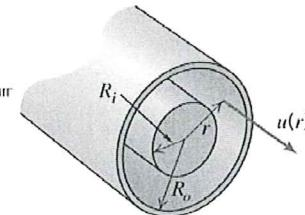

Figure 3
- The velocity profile for laminar flow in an annulus as shown in figure 3 is given by: